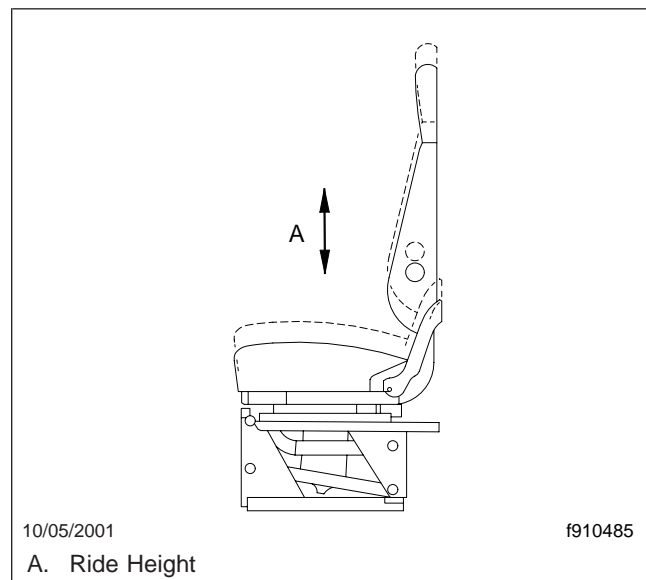

Fig. 5.9, Ride Height Adjustment
8. Ride Height Adjustment: The entire seat moves up or down when adjusting the ride height. The adjustment is either manual or air controlled, depending on the make and model of the seat (Fig. 5.9).